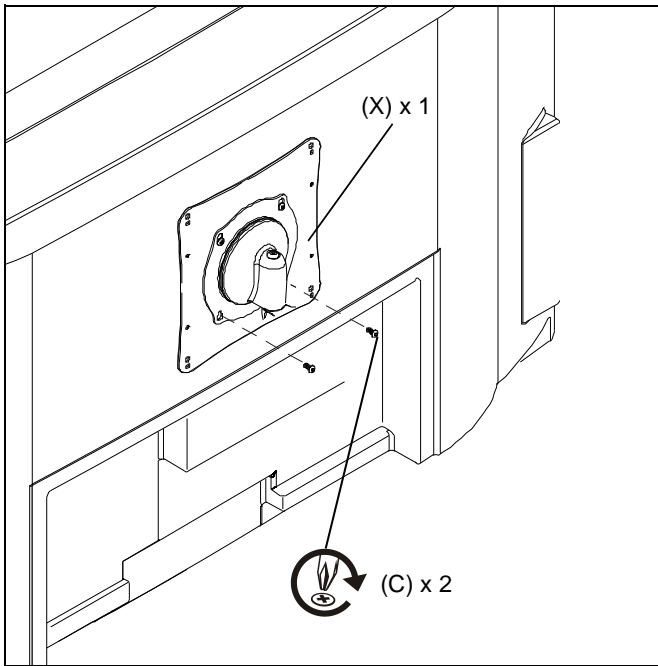

Figure 11
7. Hold display so that interface bracket is against mounting plate and install two Phillips pan head machine screws (C) through lower mounting holes in mounting plate and into lower mounting holes in interface bracket (X). (See Figure 11)